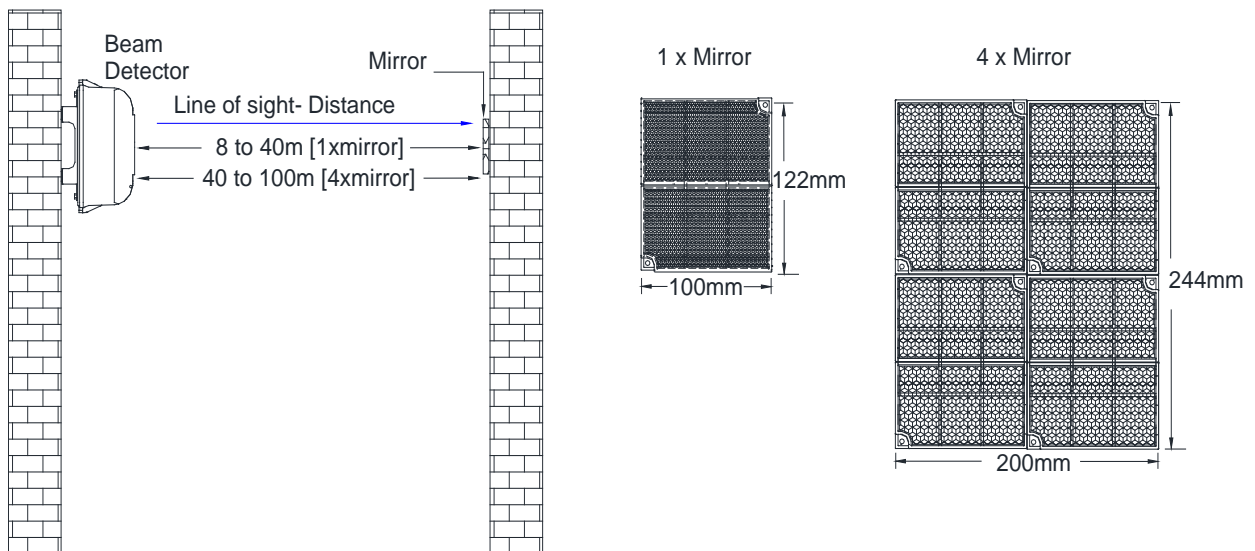

Figure 6: Mounting of FIREBEAM-R Reflector Mirror
1. Depending on the project requirement, if the distance between the detector and the reflector mirror is 8m-40m, install one reflector is enough; if the distance is 40m-100m, four reflectors is required. Refer to Figure 6.
3. Fix the reflector mirror using two ST4x30 standard screws, in the case of one-unit mirror, do the same steps for other mirrors if required. Refer to Figure 6.